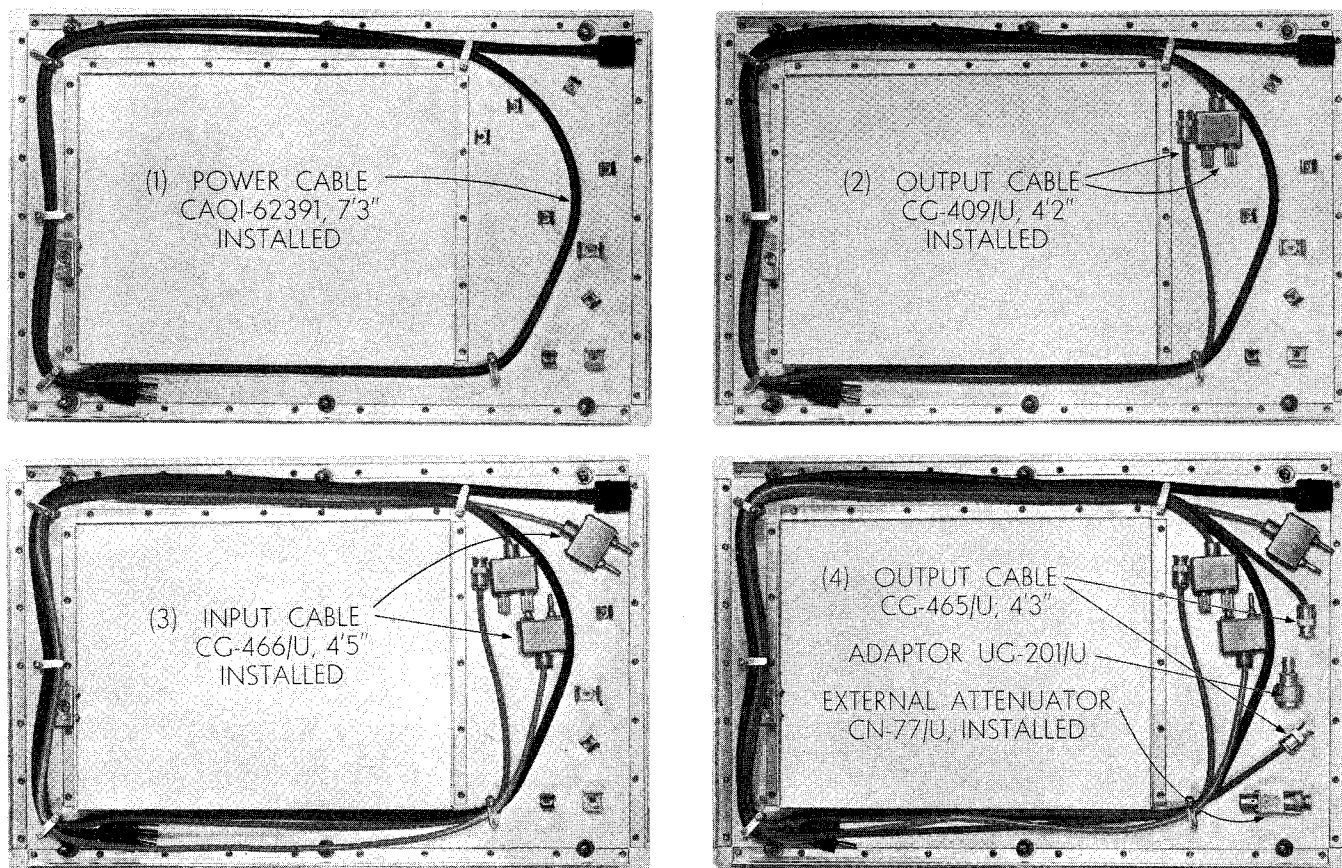

Figure 3-10. Procedure for Replacing Cables in Panel Cover
p. **CABLE REPLACEMENT.**—Fig. 3-10 shows how the output cables should be replaced in the cover which shields the control panel of the instrument.